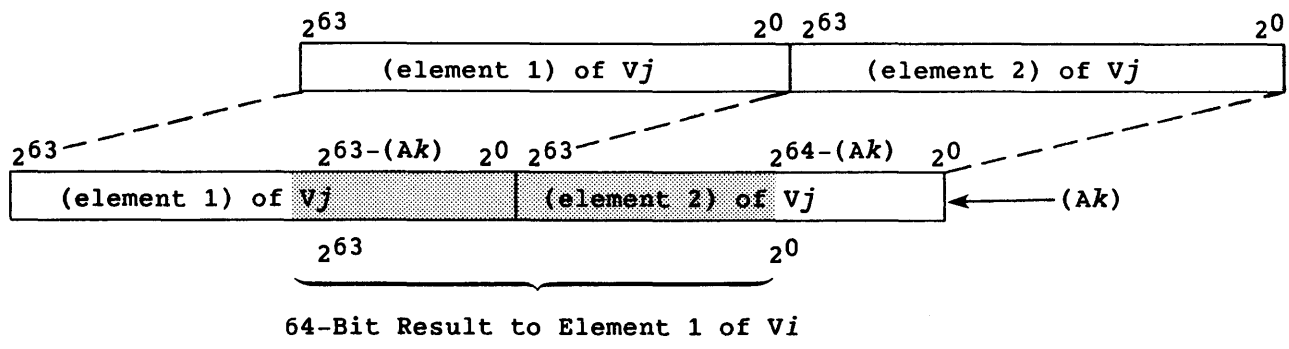

Figure 5-8. Vector Left Double Shift, Second Element, VL Greater than 2
If (VL) is greater than 2, the operation continues by joining element 1 with element 2 and transmitting the 64-bit result to element 1 of Vi. Figure 5-8 shows this operation.